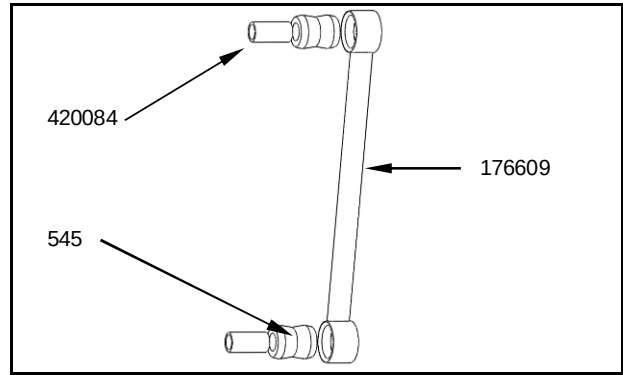

Figure 10
- 2) ☐ Apply silicone lubricant and press sleeves 420084 into the installed bushings. See Figure 10.